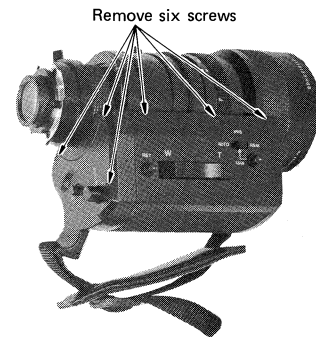

Fig. 16
- Remove six screws on the zoom unit cover A and B. (Fig. 16)